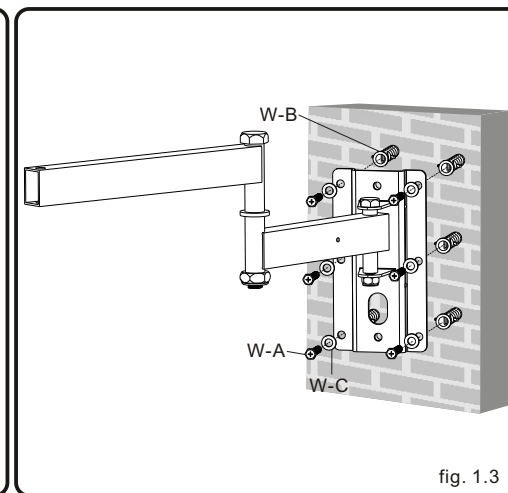

fig. 1.3
- Pre-drill these holes with a 10mm masonry bit to at least 60mm in depth. Insert a concrete anchor (W-B) into each of these holes. Attach the wall plate to the wall using six wood screws (W-A) and six washers (W-C), as shown in fig.1.3.